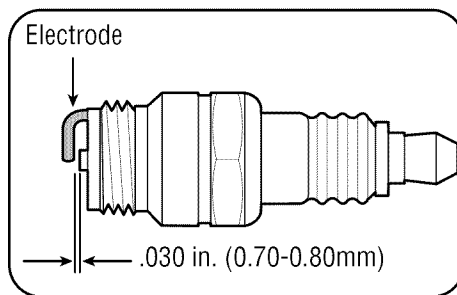

Figure 20
- Check the gap using a wire feeler gauge. Adjust the gap to .030 in. (0.76mm) by carefully bending the ground electrode. See Figure 20.